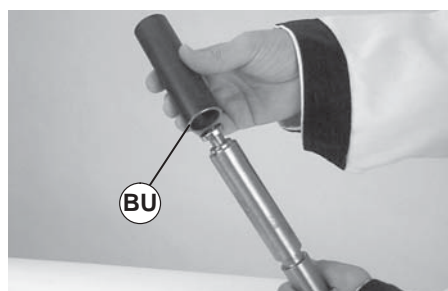

Figure 38
3. Slide sleeve (Figure 38, item BU) of tool (part # 456085) over bearing.